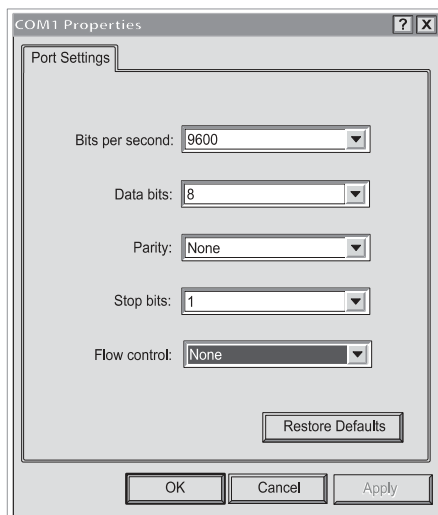

Figure 6. Configuring Port Settings
4. Set the serial line to **9600 baud, 8 data bits, no parity, 1 stop bit, no flow control** (see Figure 6).